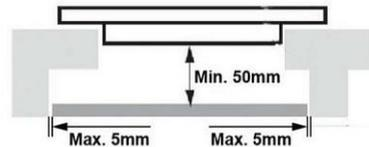

Fig. 4
4. Fix a wooden insert in a minimum distance of 50 mm from the bottom of the heating plate, using bolts. Consider for clearances provided in Fig. 4.